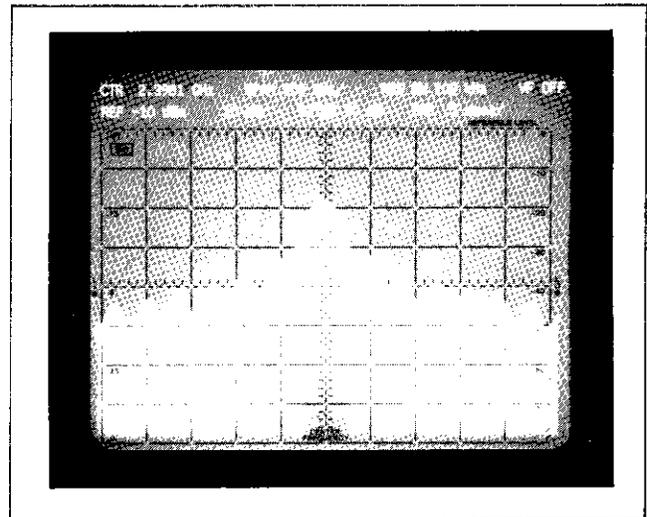
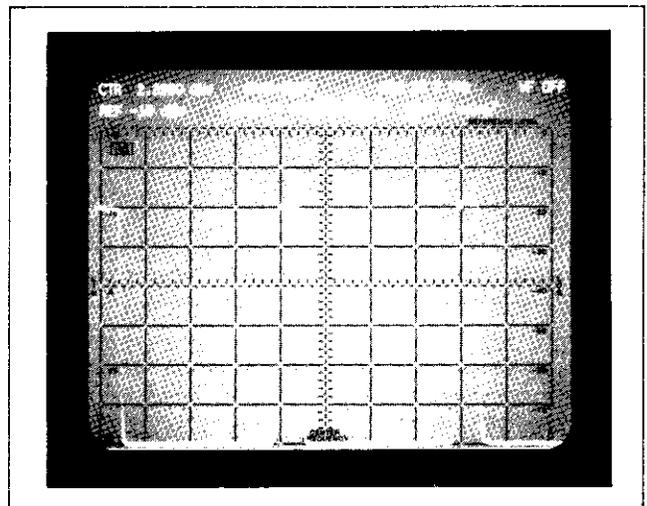

Figure 42. Pulse Spectrum
Figure 43. Demodulated Pulsed RF Signal in ZERO SPAN
For duty cycle of 0.125, $\alpha_L = -18$ dB. Hence the peak pulse power in Figure 43 is -20 dBm.
A wider resolution bandwidth results when in pulse spectrum mode. The wider resolution bandwidth provides two advantages. First, the signal to noise ratio is increased because the pulse amplitude increases linearly with the resolution bandwidth (BW). The random noise increases proportionally to the square root of the bandwidth ($\sqrt{\text{BW}}$). The only limitation is that the bandwidth should be no greater than about 5 percent of the main lobe width. Secondly, faster sweep times can be used because of the wider resolution bandwidths. The HP 8569B has a 3 MHz resolution BW which enables it to effectively display pulsed RF signals in the pulse mode. The 3 MHz bandwidth, along with fast sweep times, also enables narrow pulse widths to be measured in the time domain. The demodulated pulse signal of Figure 42 is shown in Figure 43.